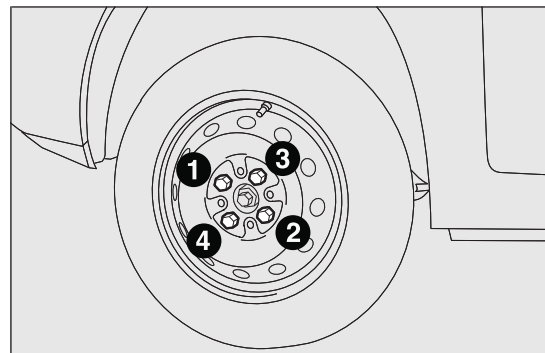

fig. 136
- ☐ use the wrench provided to fasten the bolts completely in a criss-cross fashion as shown in fig. 136.